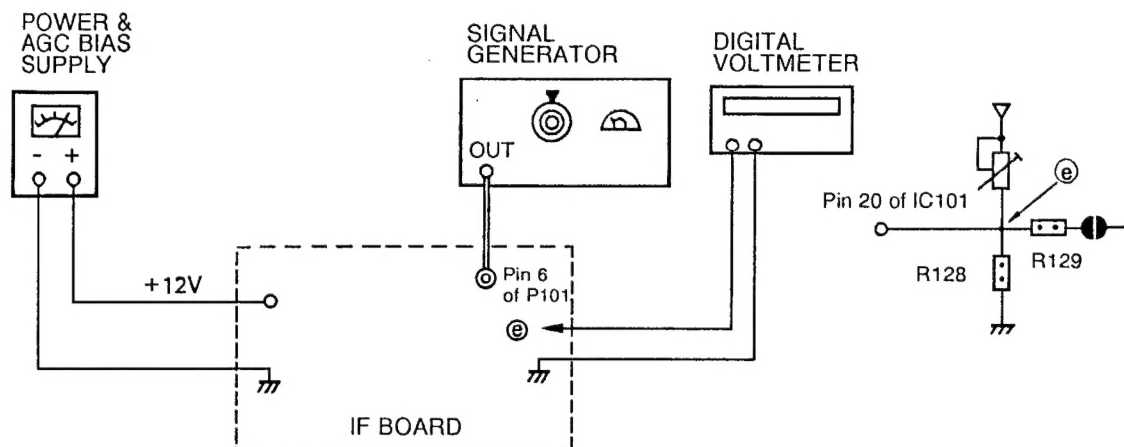

Figure 6. AFC Alignment
- GENERAL Refer to figure 6 for test equipment connection.
3. Supply +12 volts to the IF Board. (See figure 6.)
- DVM Connect to the resistor R128 (⊙ in figure 6) and ground.